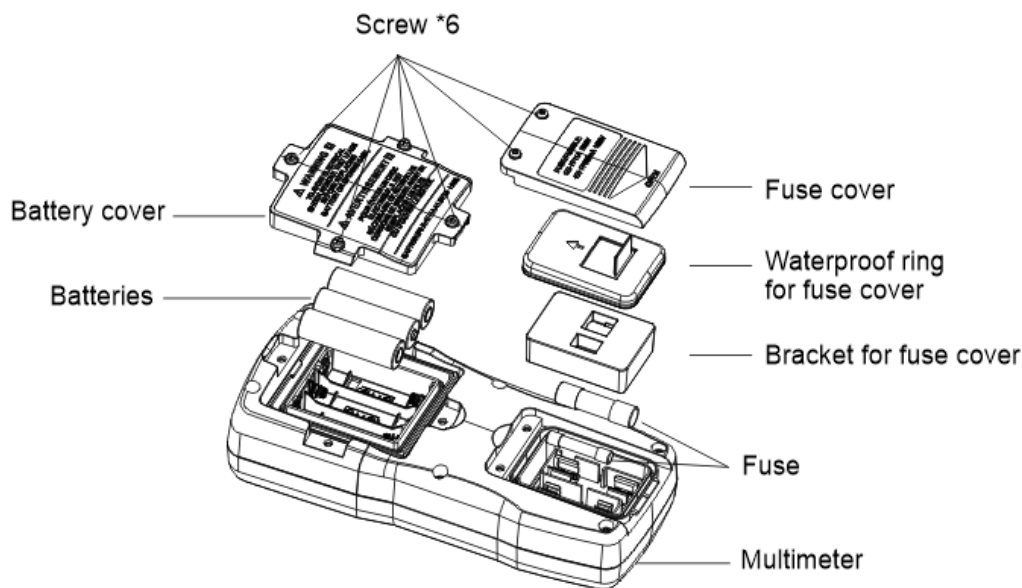

Figure 19
2. Replace the battery or fuse (Figure 19)